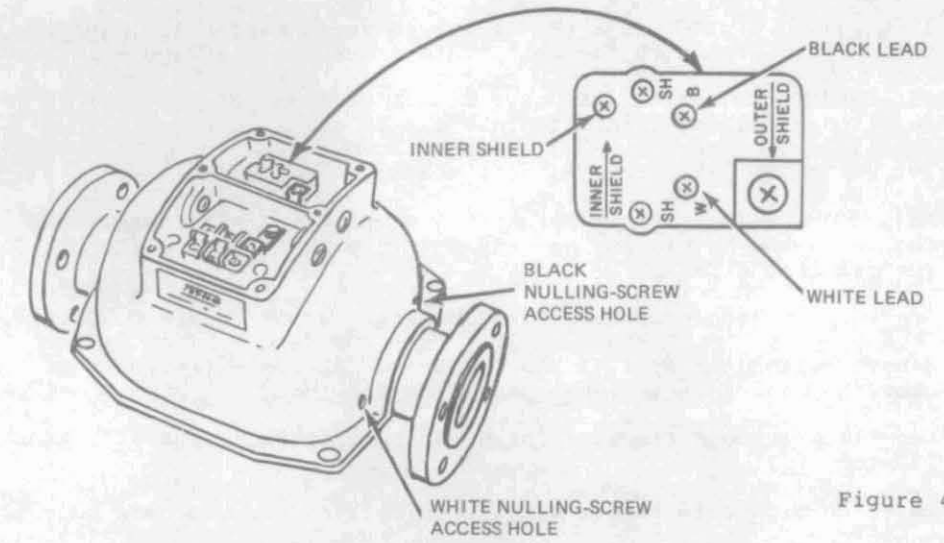

Figure 4
4. Refer to Figure 4. Unscrew plugs from nulling-screw access holes on flowtube.
5. At the flowtube, lift black lead off terminal block and connect a short jumper from black lead (B) to INNER SHIELD.
7. At the flowtube, lift white lead off terminal block and connect a short jumper from white lead (W) to INNER SHIELD.
10. Refer to Figure 4. Remove plugs from nulling-screw access holes.
11. At the flowtube, lift black lead off terminal block and connect a short jumper from black lead (B) to INNER SHIELD.
13. At the flowtube, lift white lead off terminal block and connect a short jumper from white lead (W) to INNER SHIELD.